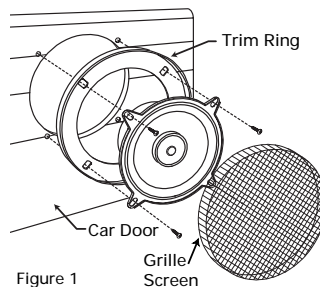

Figure 1
**Note:** The DS35, DS645 and DS75 speakers are designed for direct replacement of factory speakers. Therefore, they do not contain the grilles and trim ring shown in Fig 1. Installation of these models simply entails reversing the steps taken to remove the original speakers.